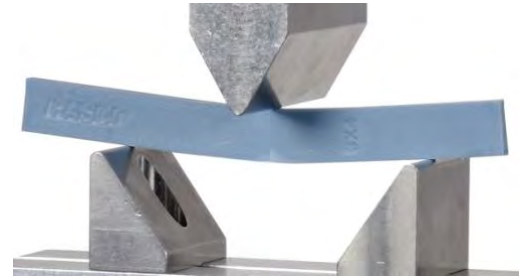

Figure 6: Bending Rectangular Beam
5. Use Eqn. (4) to calculate the Area Moment of Inertia, for the beam being bent in both the strong and weak directions. Record these in the table.
6. Place the beam across the support anvils as shown in Figure 6. This will bend the beam in the strong direction. Turn the crank counter-clockwise until the load anvil is just touching the sample.